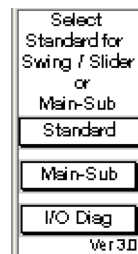
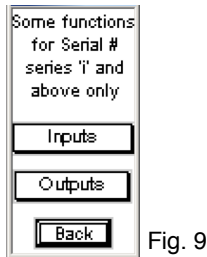

Fig. 4
Fig. 9
- Fig. 4 will display. For Main/Sub, select 'Lead Door' or 'Follow Door' on the next screen (Fig. 5), then skip to step 5.
Selecting the 'I/O Diag' button from main screen (Fig. 4), will bring you to the screen in Fig. 9. 'Outputs' will display the screen in Fig. 11.